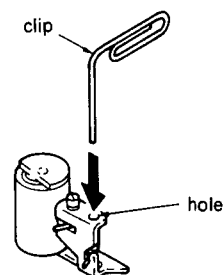

Fig. 2
- (3) Insert the end of the clip or another thin rod into the hole of the Pinch Roller Arm Assembly. (fig. 2 and 3)